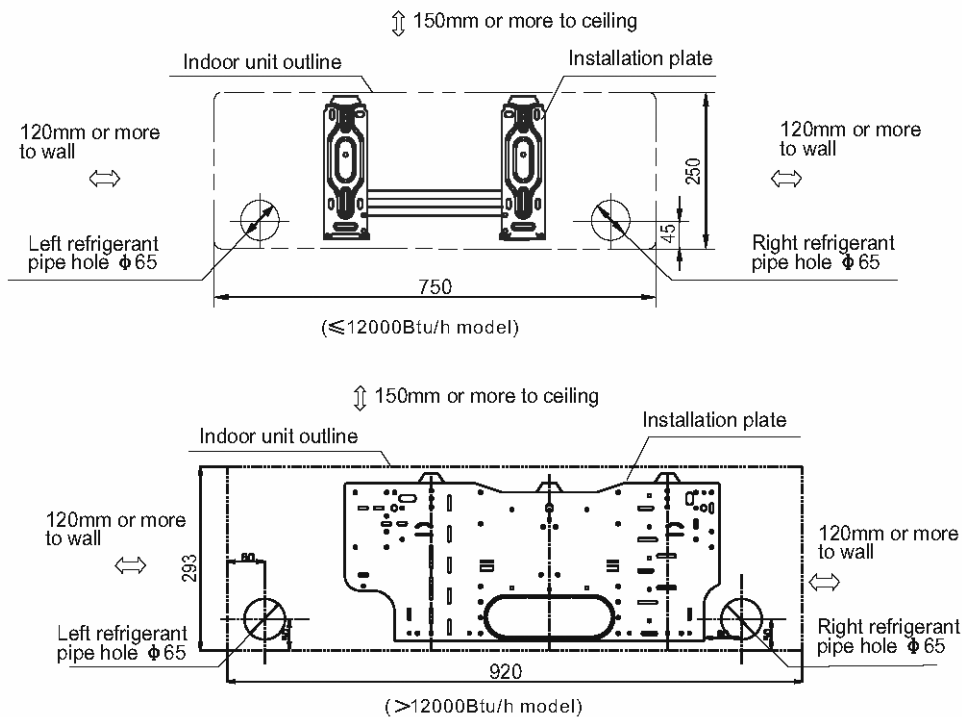

Fig.5
1. Determine hole positions according to the diagram detailed in Fig.5. Drill one (1) hole ( $\Phi$  65mm) slanting slightly to outdoor side.